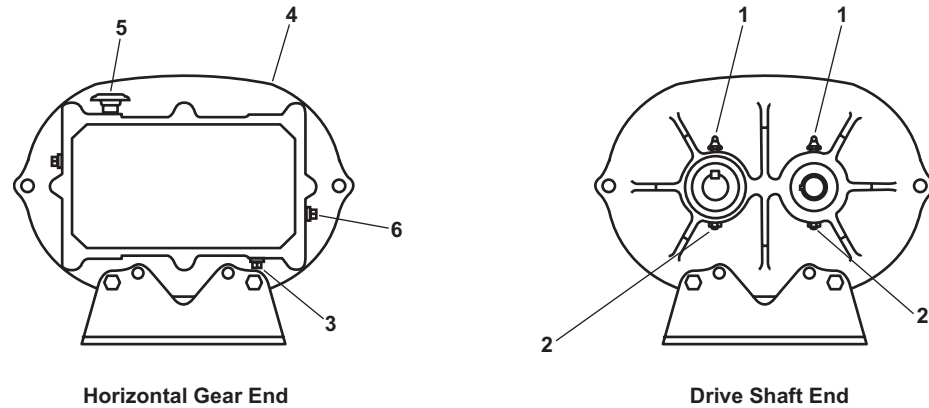

Figure 2. Blower Service Locations
3. Using a lubricating gun, pump new general purpose grease into each drive shaft end bearing's grease fitting (figure 2, item 1) until clean grease comes out of the relief fitting (figure 2, item 2).
3. Position a suitable drain pan under the oil drain plug (figure 2, item 3) of the blower (figure 2, item 4).
4. Remove the oil drain plug (figure 2, item 3) and allow the oil to drain into the suitable drain pan.
5. Remove the breather (figure 2, item 5) and the oil overflow plug (figure 2, item 6).
1. Wrap the male pipe threads of the oil drain plug (figure 2, item 3) with antiseizing tape and install the oil drain plug in the blower (figure 2, item 4).
2. Fill the blower (figure 2, item 4) with new oil (table 1) through the breather (figure 2, item 5) until the oil runs out of the overflow (figure 2, item 6).
3. Wrap the male threads of the breather (figure 2, item 5) and the overflow plug (figure 2, item 6) with antiseizing tape and install them into their respective holes.